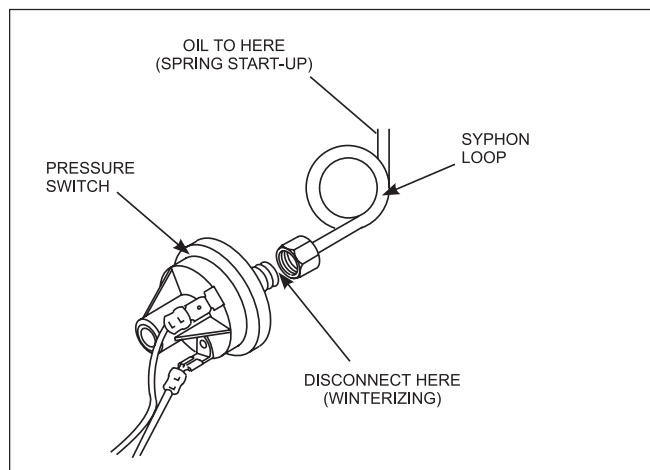

Figure 31. Winterizing the Pressure Switch
8. Disconnect the pressure switch from the siphon loop (copper tubing) (see Figure 31).
1. Fill the siphon loop with approximately 5cc of SAE 50, non-detergent oil. Attach the copper tubing to the pressure switch (see Figure 31).